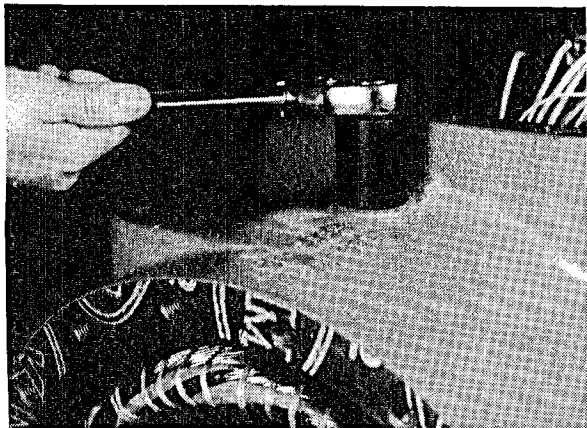

Figure 47
5. At the top of the motor barrel, remove the stator bolt (Figure 47).